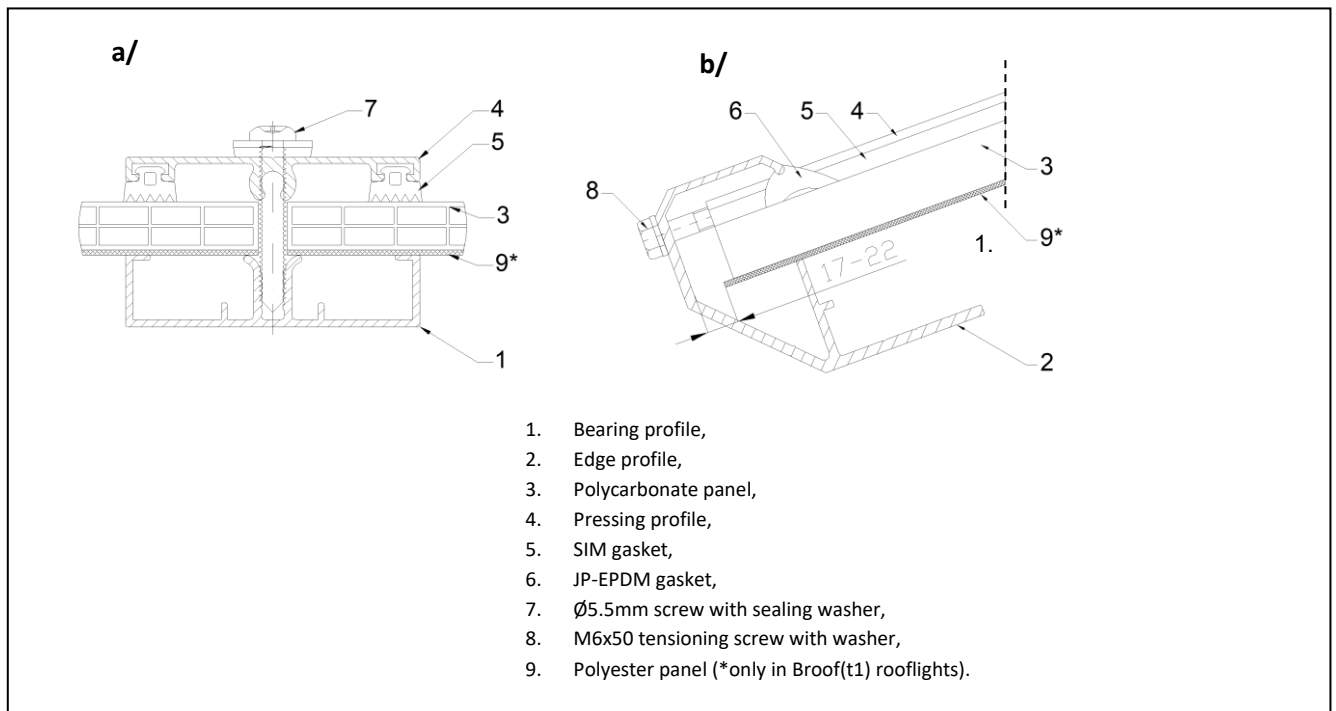
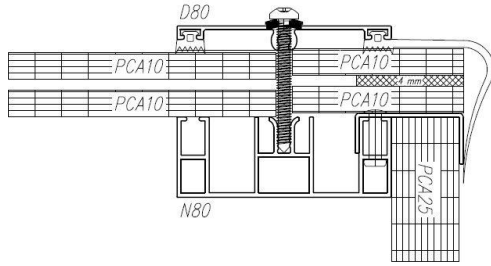
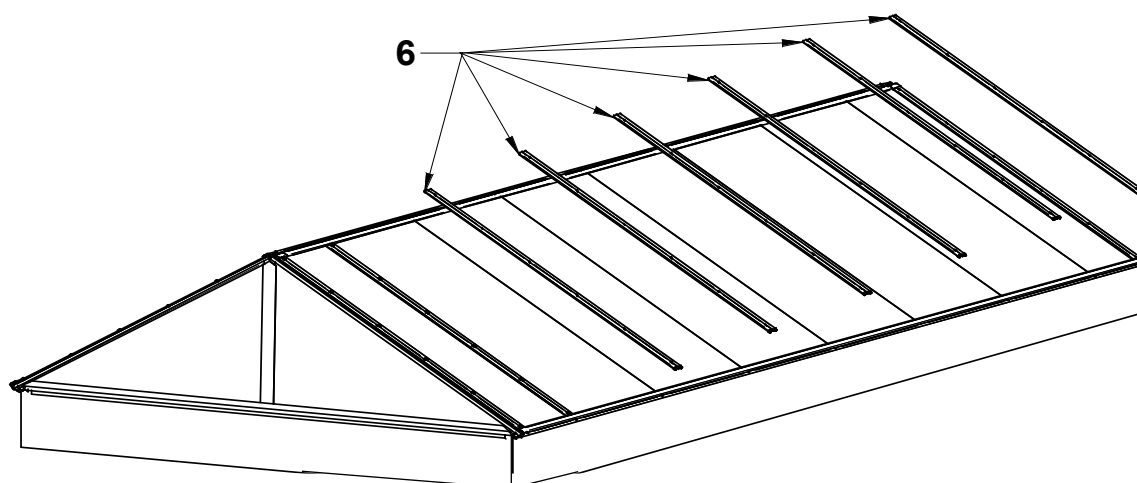

Figure 39 Connection method of: a) pressing profiles with bearing profiles; b) edge profiles with pressing profiles
Figure 52 Fitting the end panel cover strip on 80 profile system
Figure 75 Assembly of polycarbonate panels and pressing profiles (step 3)
15. Fix each pressing profile at both ends to the edge profile using M6x50 mm screws with washers, and next tension the screw (Figure 39/b).
21. Under deeper pressing profiles lay polycarbonate strips. Each pressing profile perpendicular to the edge profiles should be fixed to the edge profile using M6x50 mm screws with washers and initially tensioned (Figure 39).
25. The polycarbonate panel sections under vents and on both sides of the rooflight may have non-standard length. Gasket should be prepared for those sections. This gasket should be cut to the even width of the polycarbonate field where it will be applied plus a 2 cm margin. If the width of the field exceeds the length of the gasket – 2 cm, fill the space with two equal sections of the gasket, keeping a margin of 2 cm. Now proceed according to (Figure 52 Fitting the end panel cover strip on 80 profile system). Correctly placed in the gasket approved in as per (Figure 39).
A cross-section of a correctly inserted gasket is shown in Figure 39.
17. Now proceed according to (Figure 52 Fitting the end panel cover strip on 80 profile system). A cross-section of a correctly inserted gasket is shown in (Figure 75 Assembly of polycarbonate panels and pressing profiles (step 3)).